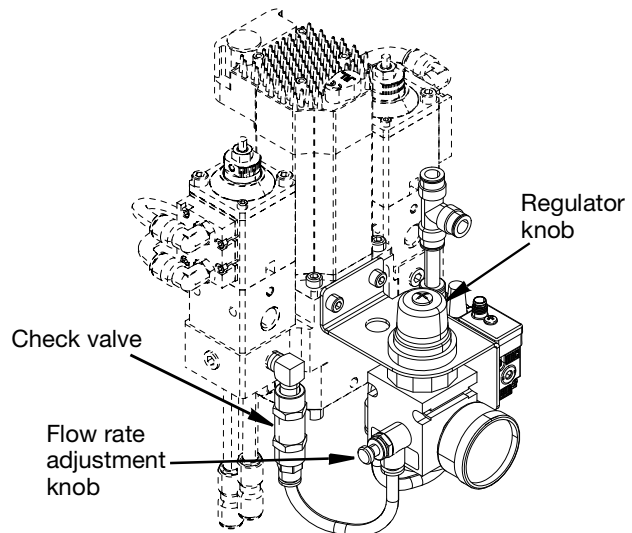

FIG. 33
- Adjust the flow rate by turning the flow rate adjustment knob clock-wise to increase flow or counter clock-wise to decrease flow. See FIG. 33.